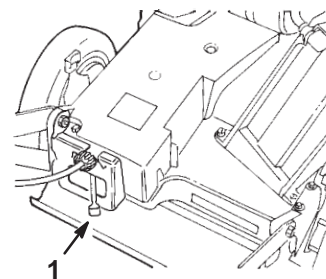

Figure 8
4. Move the ground speed control to the  (Neutral) position (Fig. 8).
The lawn mower has three ground speeds: 1 is slow, 2 is medium, and 3 is fast. The ground speed control is located at the rear of the belt cover (Fig. 8).